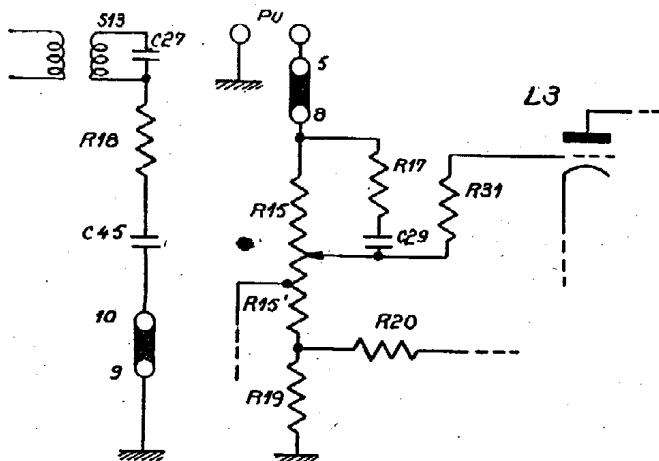

Fig. 7
**POSITION 3 ,, P. U. "** (figure 7).